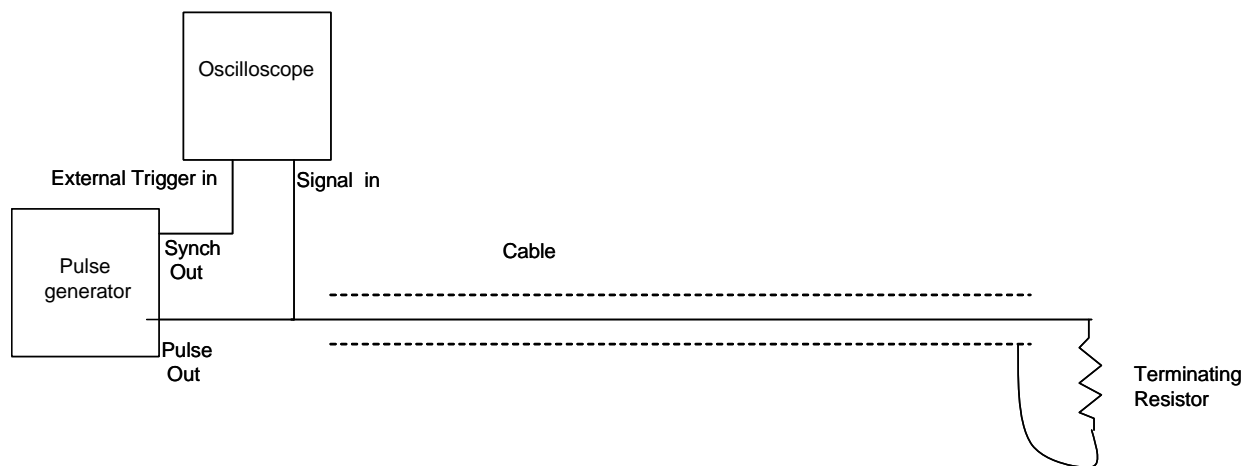

Figure 10. Setup for viewing pulses
- To see the effect, use the nanosecond pulse generator to launch a short pulse down a coaxial cable. The cable should be at least 10 feet long to see this easily on our oscilloscopes. Use a “tee” to split the pulse out so that it goes to the scope and to the long cable. You can then put a resistor at the end, between the central conductor and the “shield” of the cable, as shown in Figure 10.